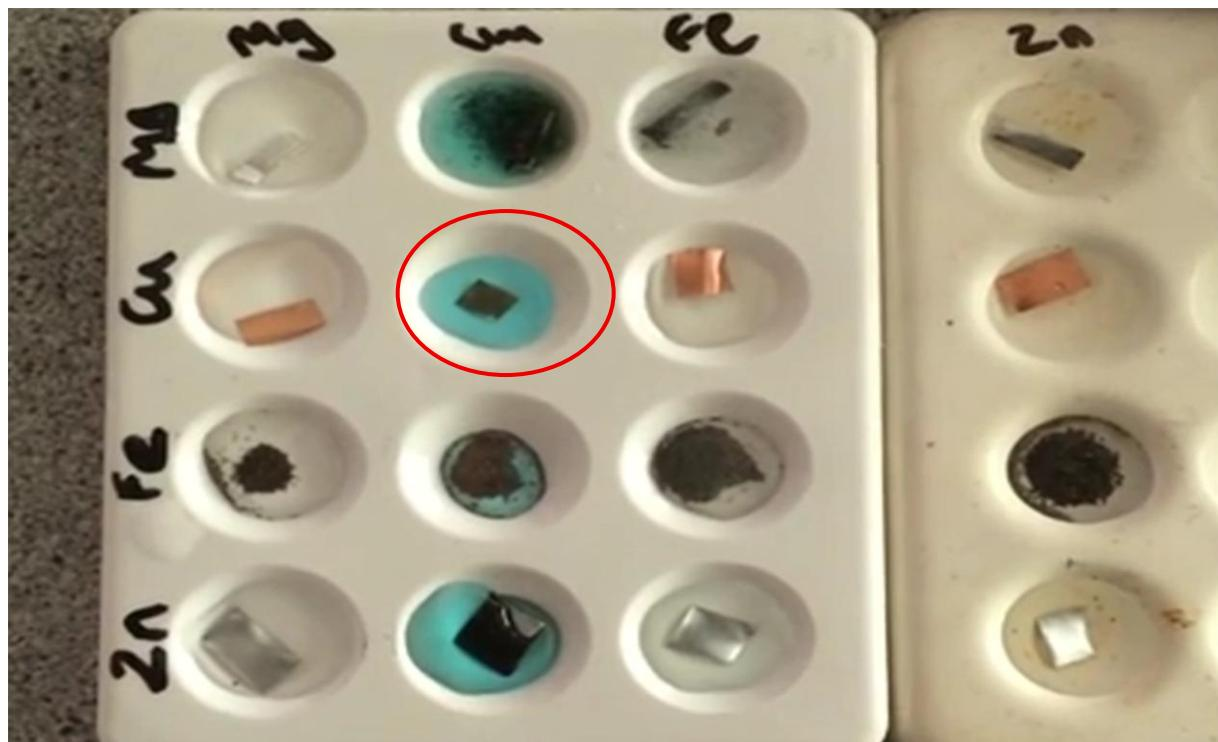

Figure 14 – A student’s experimental results of a metal displacement experiment.
c. One of the reactions is circled in red in fig. 14. A reaction should not have occurred, between Cu(s) and CuSO₄(aq). The student labelled the results table as having no reaction, but the results show a distinct discolouration of the copper metal indicating a reaction has taken place. Three possible scenarios to explain this random error were given.